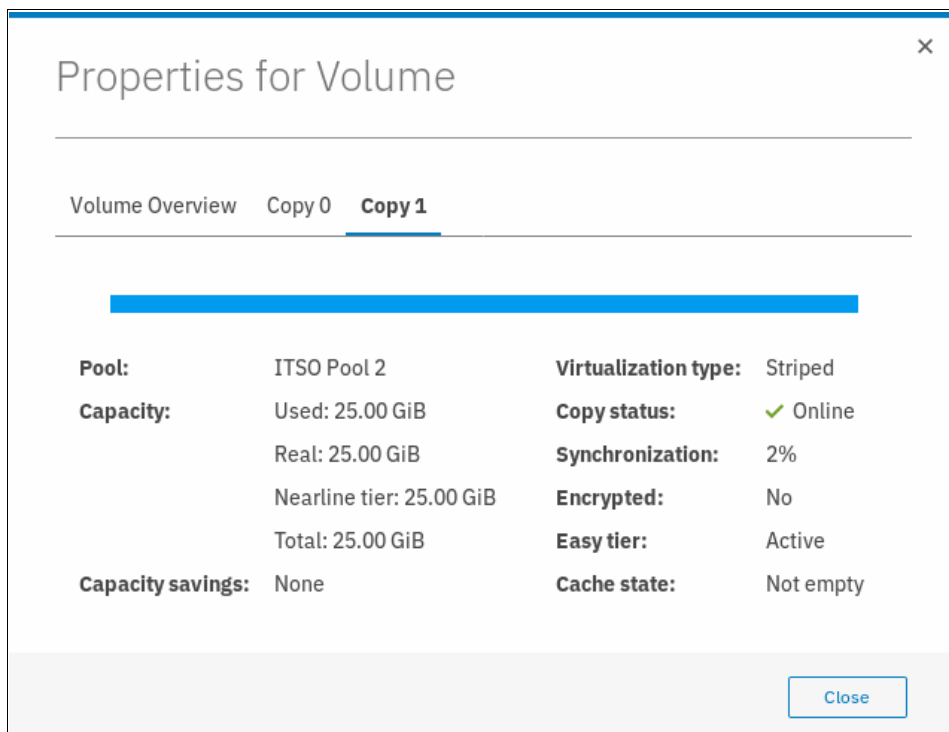

Figure 8-53 Volume copy properties
2. To open the advanced view of a volume copy, select the main volume properties. Click the wanted copy tab, as shown in Figure 8-53.